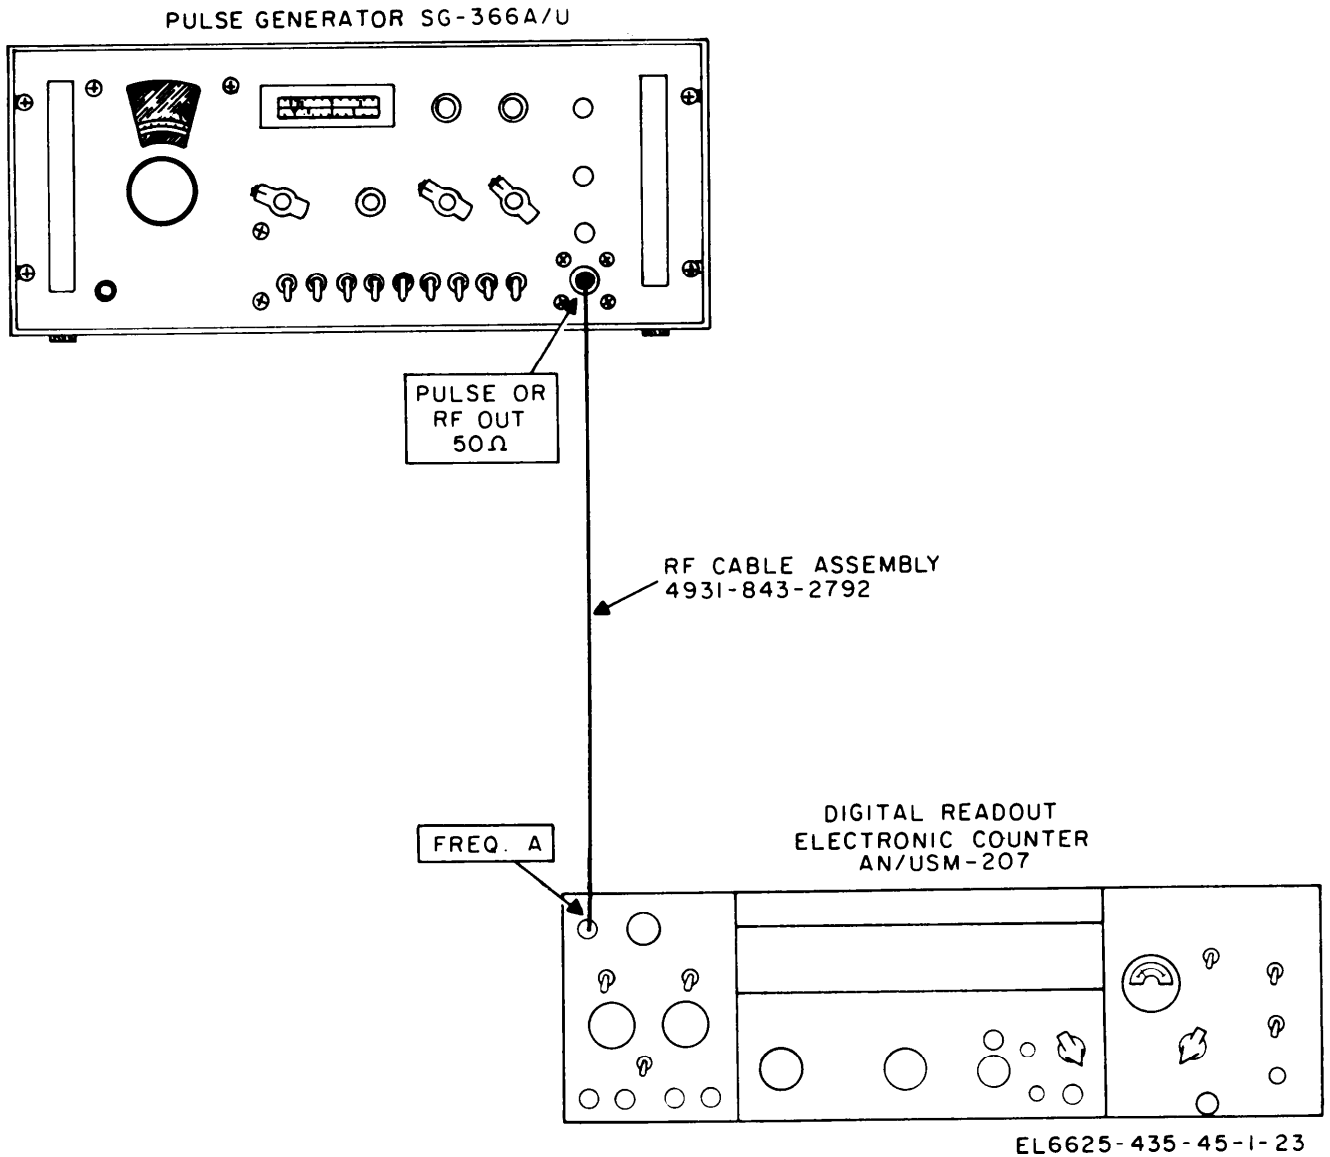

Figure 4-3. Continuous Wave Oscillator Frequency Test, Equipment Setup.
b. Test Connections and Conditions. Connect the equipment as shown in figure 4-3.